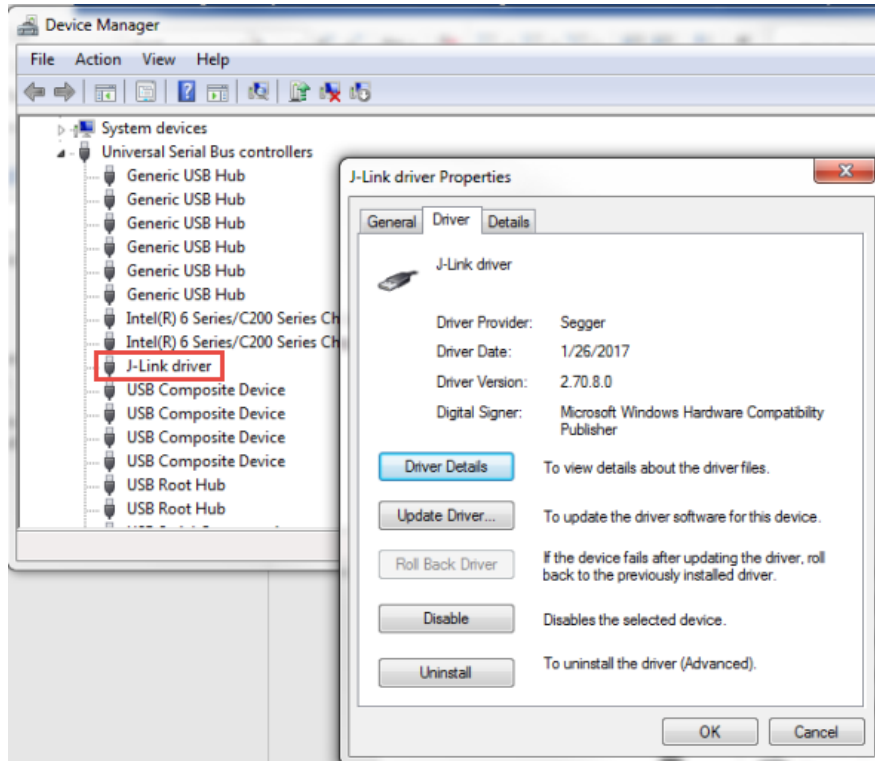

Figure 2-2. Device Manager Listing J-Link Device
2. Once the software is installed, connect J-Link to the kit's debug connector and then plug the J-Link into a USB port on the computer. When USB enumeration completes, the J-Link device should appear on a Windows PC in the Device Manager as Figure 2-2 shows.